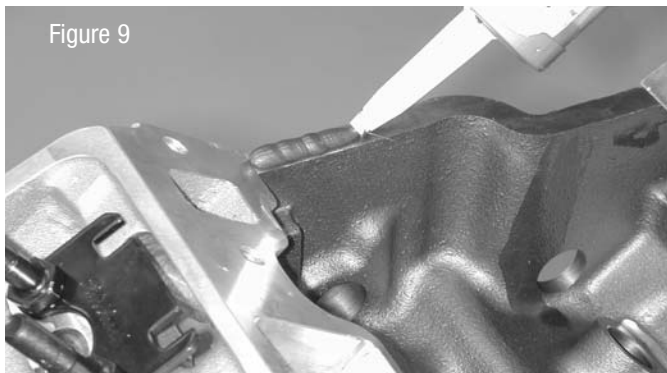

Figure 7.
2. Coat head surface and cylinder head side of intake gaskets with Edelbrock Gasgacinch #9300. See Figure 7.